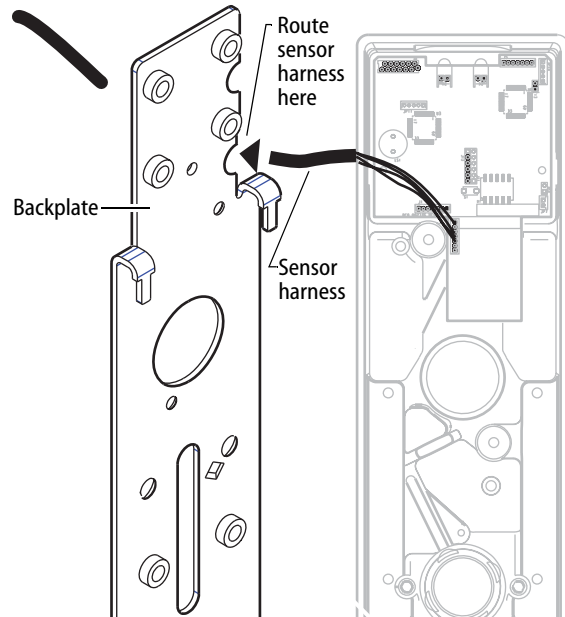

Figure 16 Re-routing the sensor harness for Von Duprin vertical rod and rim without RQE exit devices
- 4 Re-route the sensor harness as shown in Figure 16.